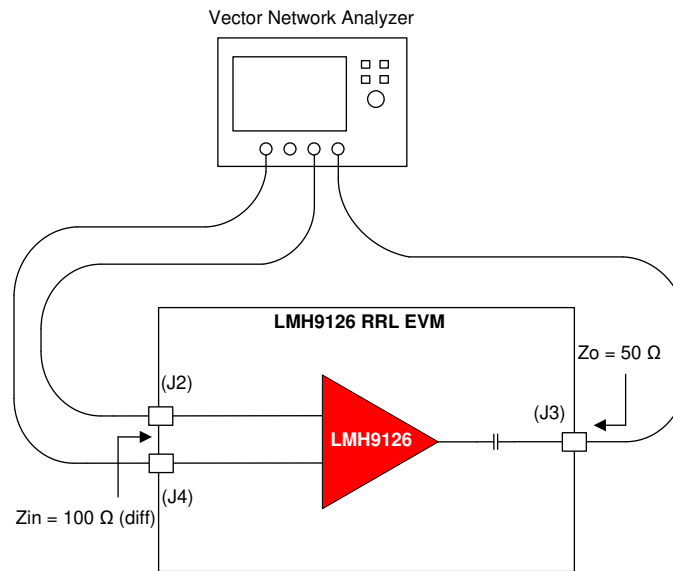

**Figure 8. Single-Tone Setup for Gain and Output P1dB (1-dB Compression Point)**
1. The input to the EVM is differential. Differential signal is generated from the single-ended output of the signal generator using an external passive balun such as shown in Figure 8. Use of at least 3-dB attenuator pads are recommended at the differential ports of the balun for better matching with the board.
4. When measuring the EVM for single-tone distortion products, TI recommends using an RF band pass filter (not shown in Figure 8) between the signal source and the balun.